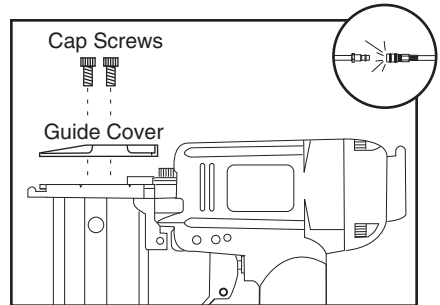

Figure 10. Removing guide cover.
4. Remove the two cap screws and driver guide cover from the nose assembly (see **Figure 10**).